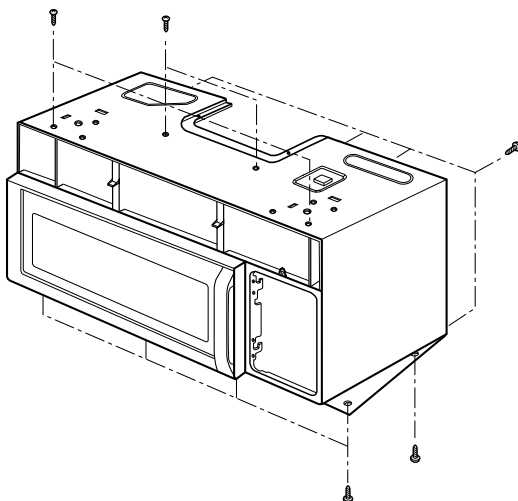

Figure 13
- (4) Remove the base plate by removing six screws securing it to the oven front plate and outcase, remove the outcase by removing nine screws securing it to the oven back plate, air duct, and front bracket. (Figure 13)